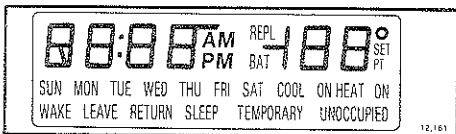

Fig. 22— All segments on display.
1. Press AHEAD and BACK keys at the same time. While holding keys down, all segments of the display should be on (see Fig. 22).